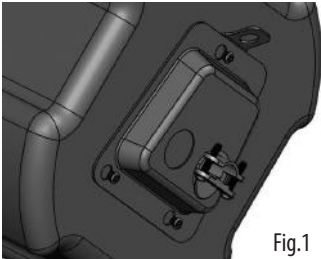
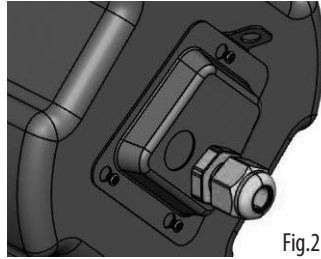

Fig.1
Fig.2
2. The speakers come with a standard speaker cable clamp (Fig.1), and an optional gland for EN5424 applications (Fig.2).